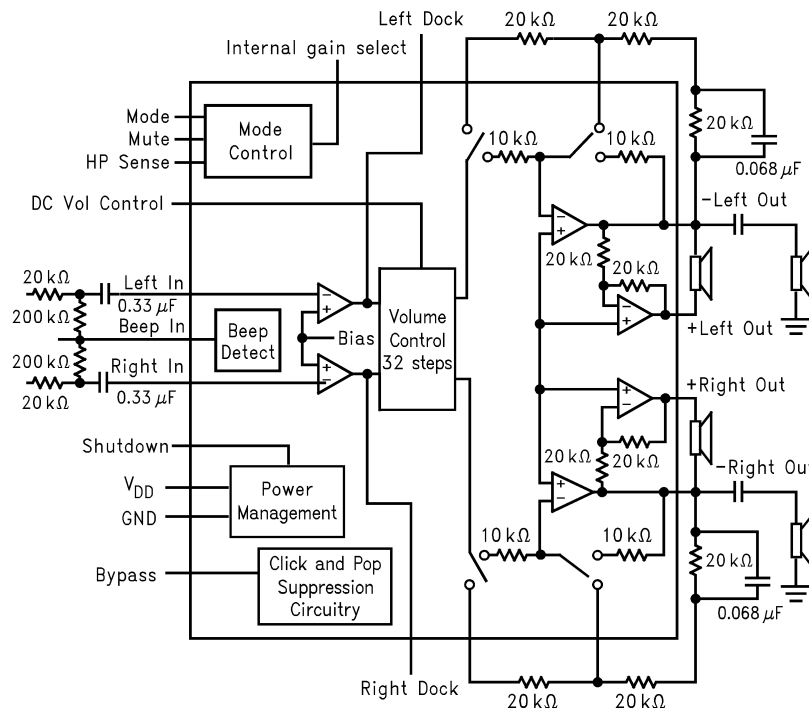

Figure 1. LM4838 Block Diagram
- (1) All voltages are measured with respect to the ground pins, unless otherwise specified. All specifications are tested using the typical application as shown in Figure 1.
- (2) *Absolute Maximum Ratings* indicate limits beyond which damage to the device may occur. *Operating Ratings* indicate conditions for which the device is functional, but do not ensure specific performance limits. *Electrical Characteristics* state DC and AC electrical specifications under particular test conditions which ensure specific performance limits. This assumes that the device is within the *Operating Ratings*. Specifications are not ensured for parameters where no limit is given, however, the typical value is a good indication of device performance.
- (3) Typicals are measured at $25^\circ C$ and represent the parametric norm.
- (4) Limits are specified to TI's AOQL (Average Outgoing Quality Level). Datasheet min/max specification limits are ensured by design, test, or statistical analysis.